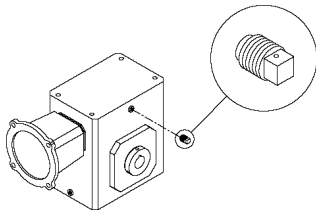

Figure 5.1 Reducer Vent Plug Installation
- CHECK FOR REDUCER VENT PLUG AND INSTALL IF NECESSARY. See Figure 5.1. To install, remove the solid plug and replace with vent plug.